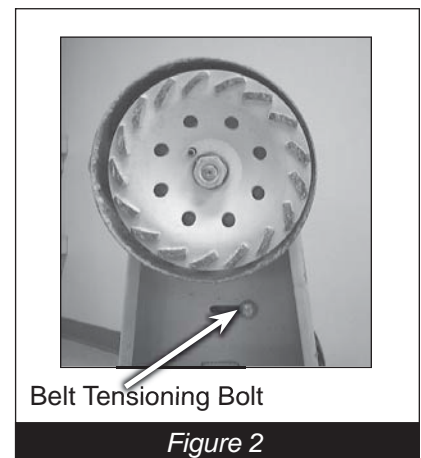
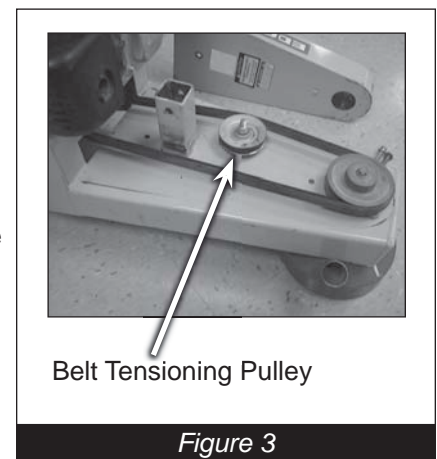

Figure 2
Figure 3
- Check belt tension. On new equipment, and after installing a new belt, the belt should be retensioned after the first four hours of use. A damaged, stretched, or worn belt should be replaced with a new one. (*Figure 3 - Shown with belt cover removed.*)
- Adjust belt tension (*Figure 3*). Loosen belt tensioning bolt (*Figure 2*) and slide pulley to provide more tension against drive belt.
- To tension the belt, the Grinders are outfitted with a tensioning pulley (*Figure 3*). Proper belt tension must be maintained to transmit the motor power to the grinding disc. Damage to the motor will occur and disk life shortened if belts are not kept at the proper tension.